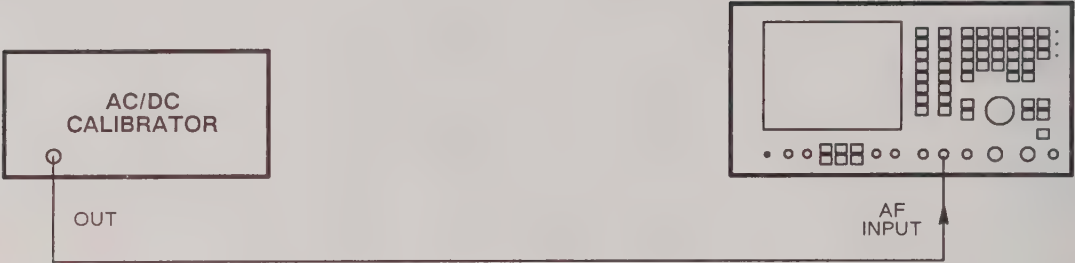

Fig. 6-7 Test equipment connections for voltmeter level at DC and 1 kHz
- (1) Connect the AC/DC calibrator to the AF INPUT socket. See Fig. 6-7.
- (2) On the 2955A, set the MODE to AUDIO TEST, AC DC to DC, FILTER to 50 kHz LOW PASS and DIST'N to off.
- (3) Set the calibrator to give 1.000 V DC.
- (4) Check that the AF voltmeter reading is the same as the calibrator voltage $\pm 3\%$ $\pm 3 \text{ mV} \pm 1 \text{ digit}$.
- (5) Repeat setting the calibrator to other DC levels up to 100 V and repeat (4).
- (6) Check the operation of the bar chart and oscilloscope.
- (7) On the 2955A, set AC DC to AC.